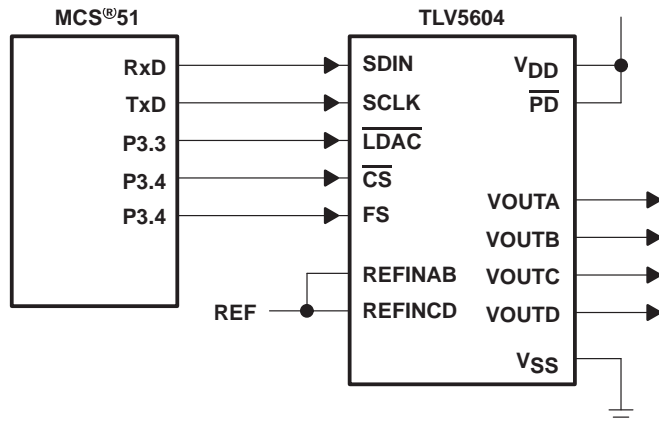

Figure 18. TLV5614 Interfaced with MCS[®]51
Figure 18 shows an example of how to connect the TLV5604 to an MCS[®]51 Microcontroller. The serial DAC input data and external control signals are sent via I/O Port 3 of the controller. The serial data is sent on the RxD line, with the serial clock output on the TxD line. Port 3 bits 3, 4, and 5 are configured as outputs to provide the DAC latch update ($\overline{\text{LDAC}}$), chip select ($\overline{\text{CS}}$) and frame sync (FS) signals for the TLV5604. The active low power down pin ($\overline{\text{PD}}$) of the TLV5604 is pulled high to ensure that the DACs are enabled.